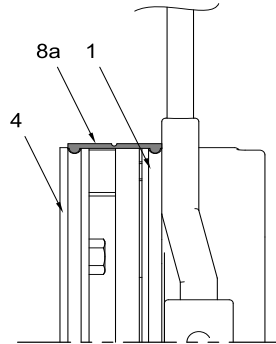

Figure 52 – Brake Seal
- Press the lips of the seal into the grooves into the stator (1) and the mounting flange (4) (see Figure 52).